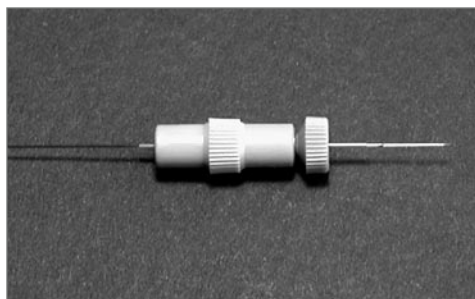

Figure 10 PicoFrit® column loaded into MicroTight union
- 3) When properly installed into the MicroTight union, the tip end should extend 15-20 mm past the end of the fitting when it is tight. This will afford optimal positioning of the tip within the adjustment range of the stage plate. Using a ruler, measure and note the distance the tip extends from the fitting. Gently move the PicoFrit until the tip extends 15-20 mm past the end of the fitting. Finger-tighten the compression fitting to hold the tip in place. Figure 10 shows a correctly loaded union.